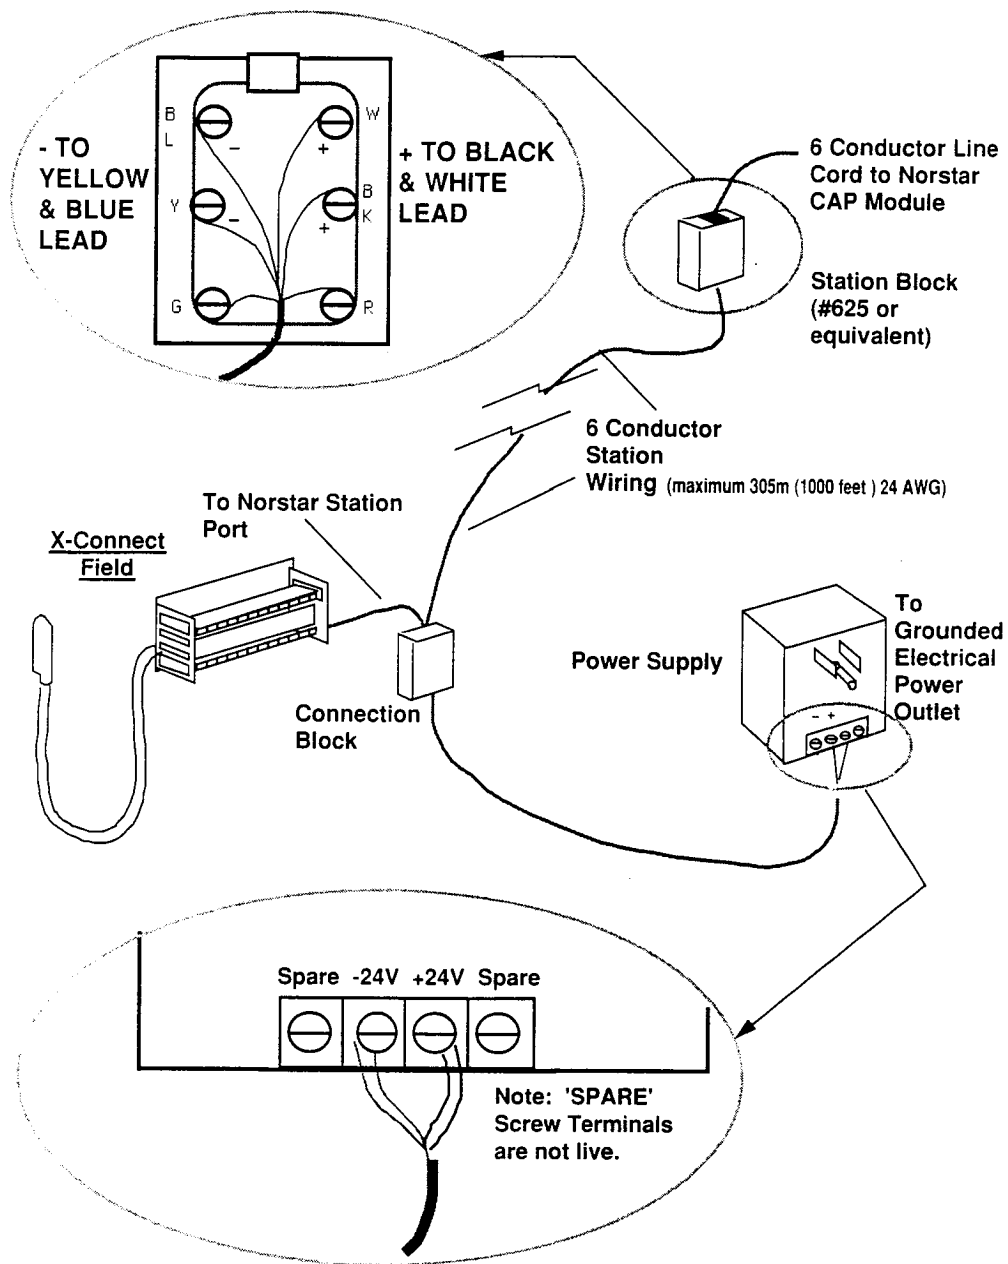

Figure 2
1. Ensure that each M7324 telephone that you will be adding a CAP Module(s) to has 6 conductor station wiring between the station block and the common equipment room. (See Figure 2)
2. At the station connection block (#625 type, or equivalent), connect the 6 wires of the station wiring cable to the 6 screw terminals as shown in Figure 2. **Note the color codes of the positive and negative wires.**